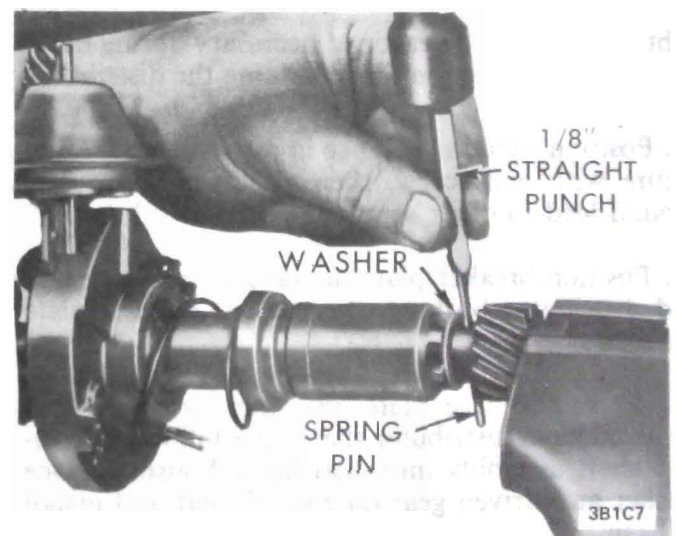

Figure 1C-8 Removing Spring Pin
5. **Distributor Shaft** Check for excessive wear between shaft and bearings in distributor housing. Using a 1/8" pin punch, remove driven gear roll pin, driven gear, washer and lift distributor shaft out of housing. See Figure 1C-8. Rotate gear on shaft to remove any burrs that might be around roll pin hole before removing gear.